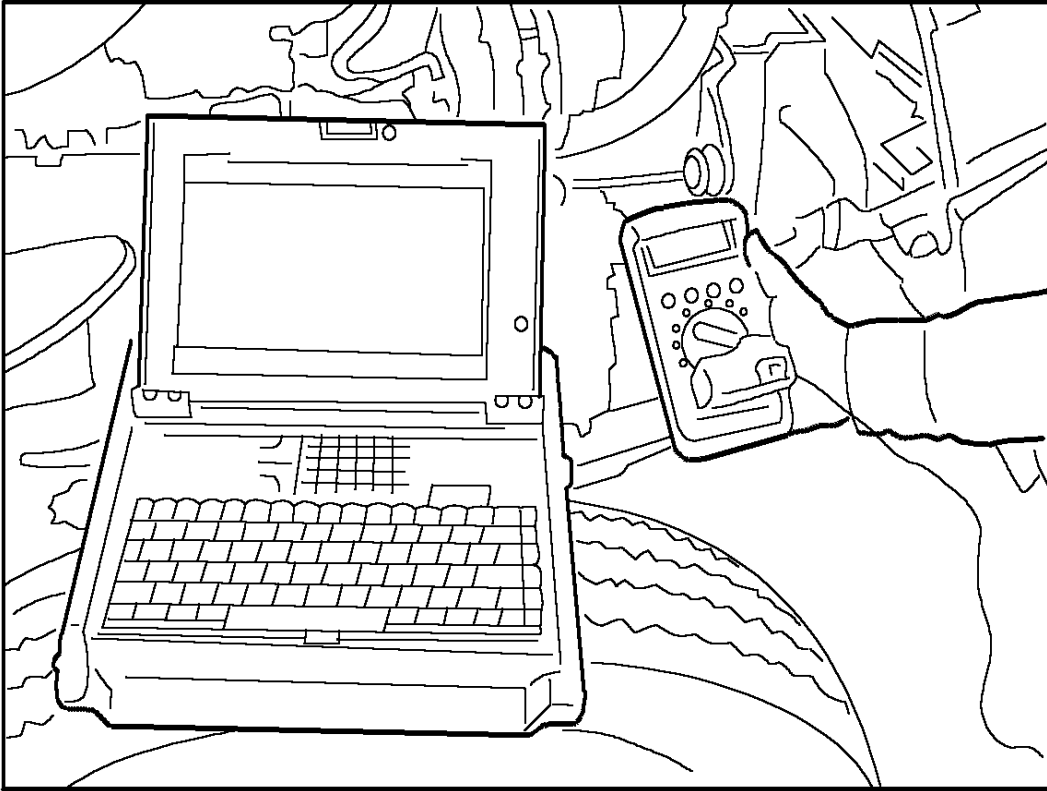

Figure 7 Measuring the Coolant and Air Temperatures
- b. As engine coolant temperature reaches 200–220°F (93.3–104.4°C), (refer to Figure 7), fan speed should increase to 2125 RPM or higher (85% of the test RPM).
- c. The air temperature at the bi-metal should be between 165°F (73.9°C) and 195°F (90.6°C) when the fan engages (Figure 7). Refer to Table 3 for specific fan drive P/N calibration information (See Table 3, page 11).